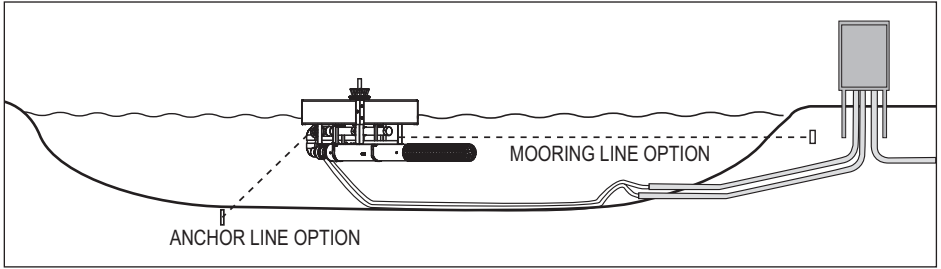

Fig.7
- Tow unit into place with boat, or pull into place from opposite bank using anchoring/mooring rope. **DO NOT USE SUBMERSIBLE CABLE(S) TO TOW OR PULL UNIT.**
- Once in final destination, leave enough cable to ensure it drops to the lake bottom and accounts for any future rise in water level. Failure will result in fountain being “pulled” back toward shore. (Fig.7)
With unit in its final location, securing the fountain can be achieved by either anchoring or mooring methods. Each has pros/cons and should be determined based on individual site conditions before the installation begins. (Fig.7)